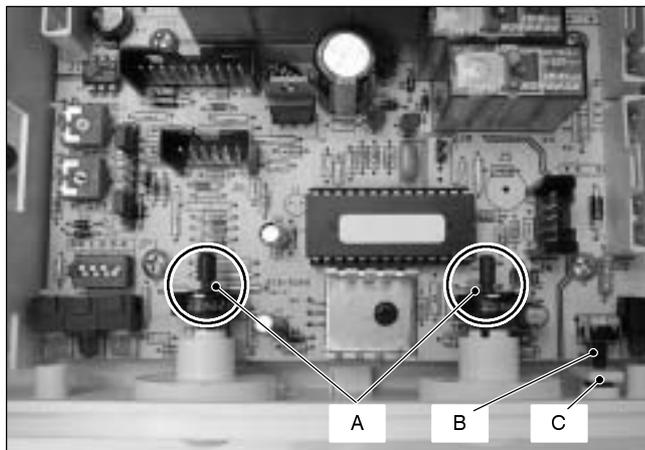

Fig. 39
- 8 Insert the spindles in the control panel knobs until the notch A (Fig. 39) reaches the potentiometer edge. It is not necessary to force them in the knob.
p.c.b. towards the control panel fascia making sure of the contact between the boiler reset button *B* and the tab *C* (Fig. 39).